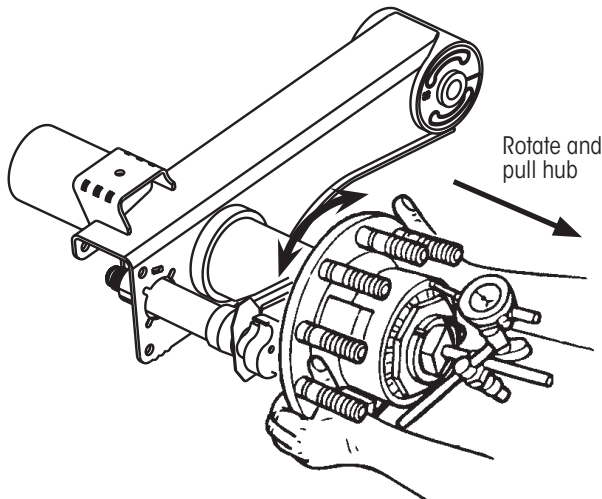

Figure 6: Checking outward end-play
9. While still grasping hub (Figure 6), pull hub outward while rotating hub slightly in both directions (15 - 30° between two holes) until dial indicator reading remains constant. Record reading.